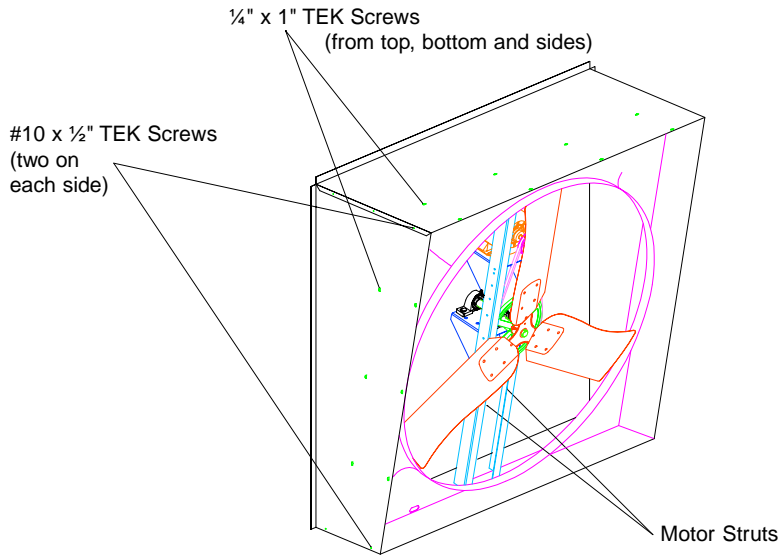

Figure 2
- 2) Remove shutter and the four #10 x 1/2" TEK screws shown in **Figure 2**. Save these screws.